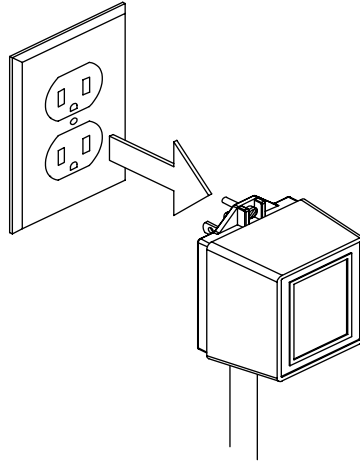

Figure 1
Step 1: Unplug the water heater and Setback Control. This is shown in Figure 1.